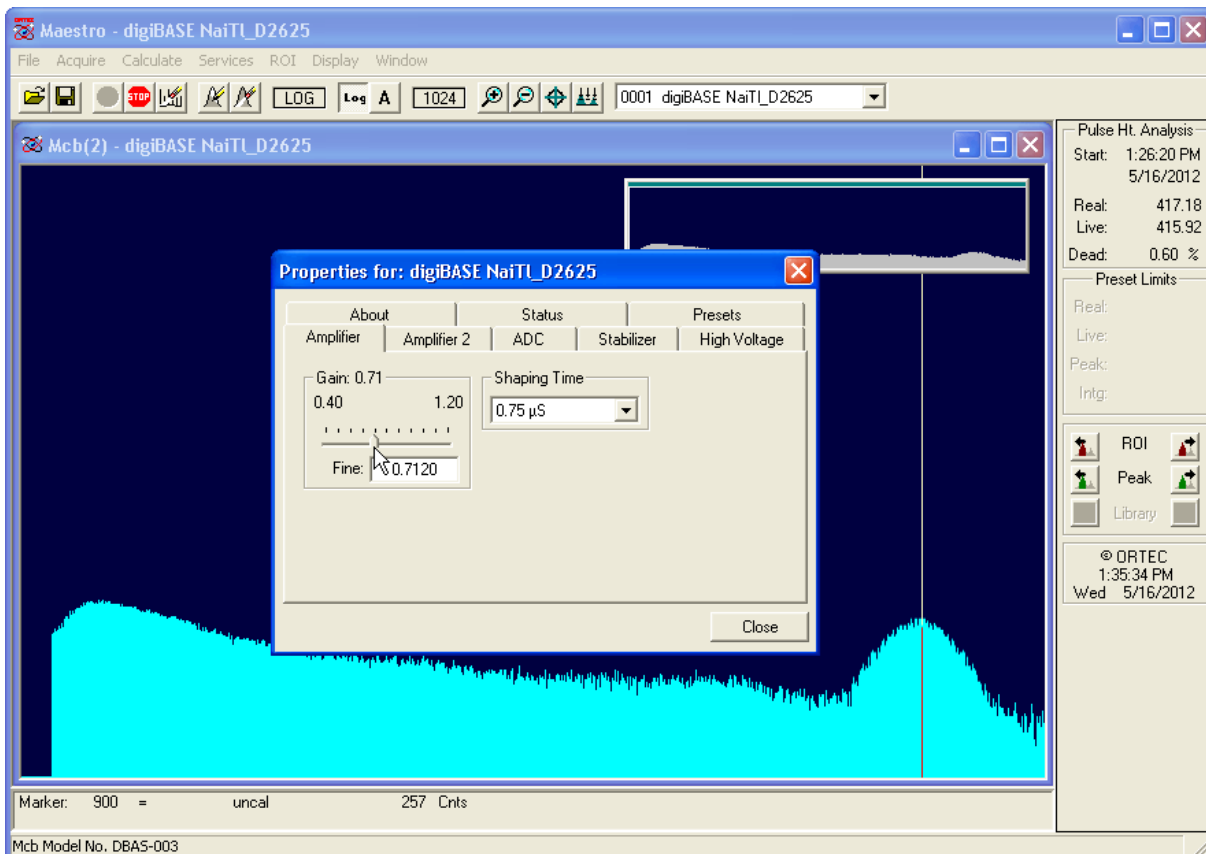

Figure 28. Put Marker in Channel 900 and Use Fine Gain to Center the 1461 keV Peak.
- Switch to the Amplifier tab and enter slight adjustments of the **Fine** gain (clearing the detector memory and acquiring more data after each adjustment) to center the 1461 keV peak in channel 900. Start with a change of 0.01 gain units to get an idea of the amount of peak shift it will cause, then make iterative adjustments until the peak is properly centered in the target channel. To clearly locate the center of the peak for an accurate final adjustment, you will need to collect enough data (perhaps for several minutes) to obtain a relatively smooth, well-formed peak. See Fig. 28.